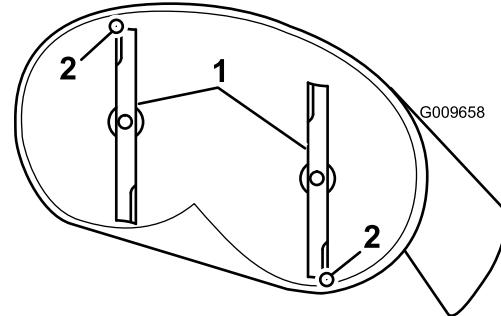

Figure 53
4. Carefully rotate the blades so they are facing front to rear (Figure 53).
5. Measure from the tip of the front blade to the flat surface and the tip of the rear blade to the flat surface (Figure 53). If the front blade tip is not 1/16-5/16 inch (1.6-7.9 mm) lower than the rear blade tip, adjust the front locknut.
- After adjustment, check the front-to-rear slope again. Continue adjusting the nut until the front blade tip is 1/16-5/16 inch (1.6-7.9 mm) lower than the rear blade tip (Figure 53).